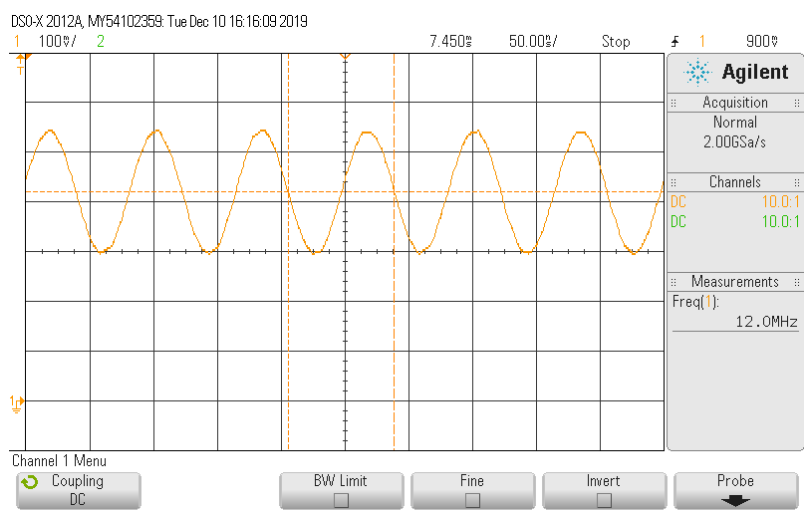

Figure 8.4: 12 MHz clock sine wave measured on the XOUT pin.
1. Connect a scope pin to the XOUT pin. A 12 MHz sinewave should be visible, see Figure 8.4.